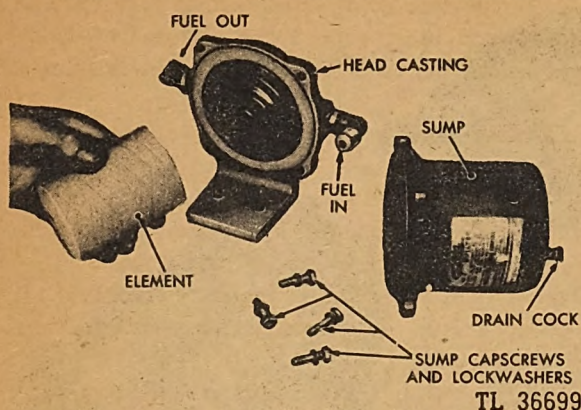

Fig. 47. Secondary Fuel Filter Disassembled
(2) Install a new element in the secondary filter, but first wash the outside of the filter housing seats and tubes before it is disassembled, to avoid getting dirt into the lines. Use clean fuel oil for washing. (See Figure 47.)